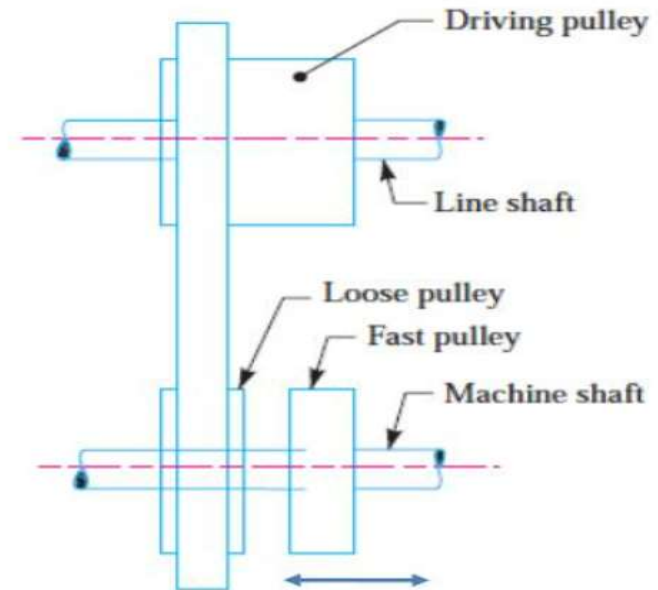

Fig. 11. Fast and loose pulley drive
- g. *Fast and loose pulley drive.* A fast and loose pulley drive, as shown in Fig. 11, is used when the driven or machine shaft is to be started or stopped whenever desired without interfering with the driving shaft.